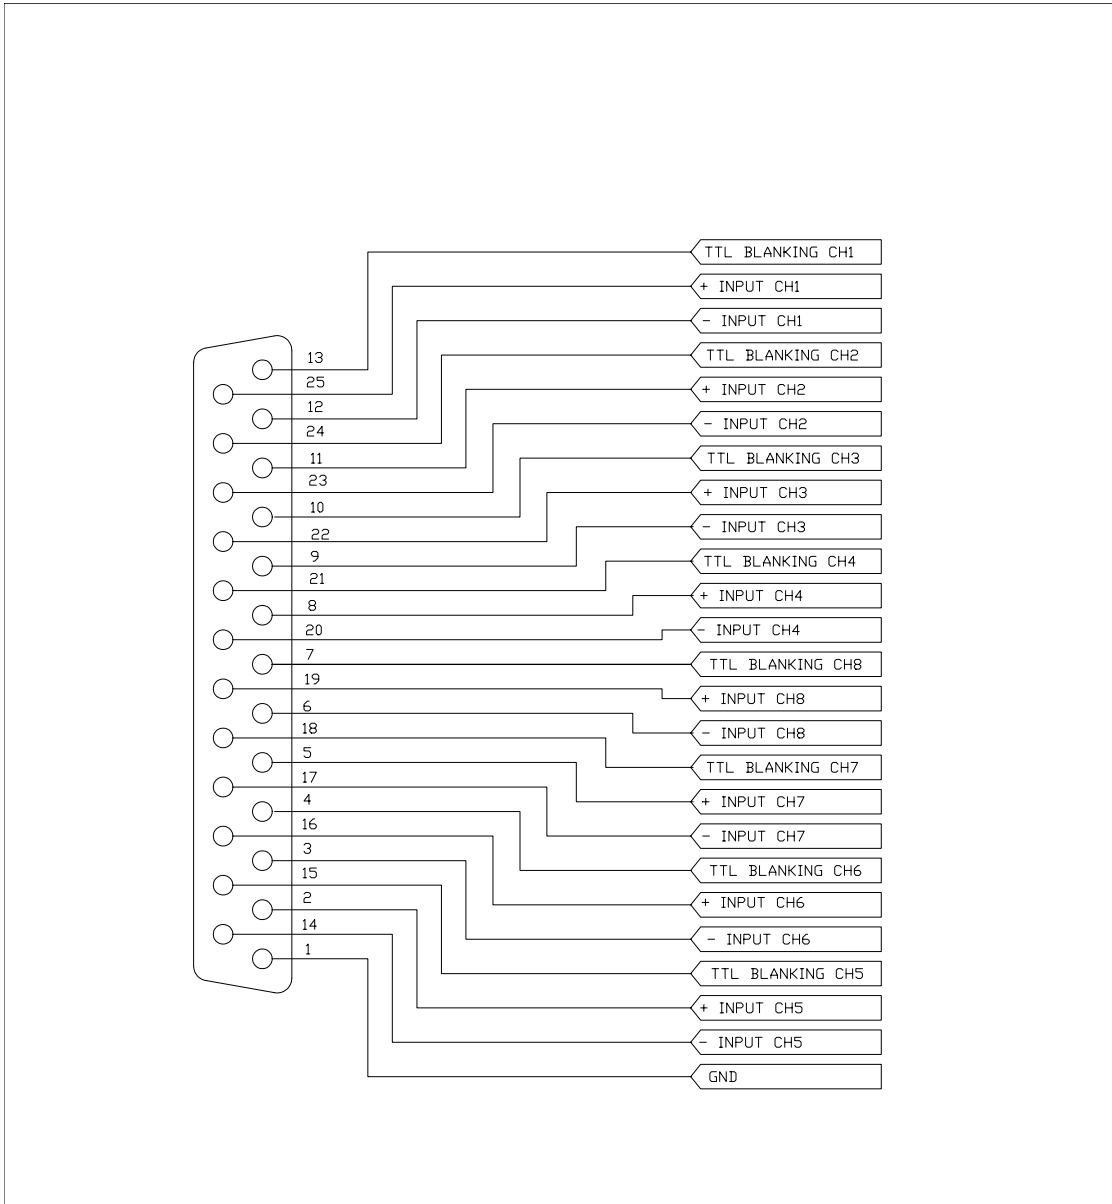

figure 1
The output sample port (TP1) provides a -20 dB sample of the actual output frequency. The pin-outs for the D connector are silk screened on the housing (Refer to figure 1 for pin outs).
A. Inputs/Outputs: **J1 25 PIN SUB D CONNECTOR** See figure 1.